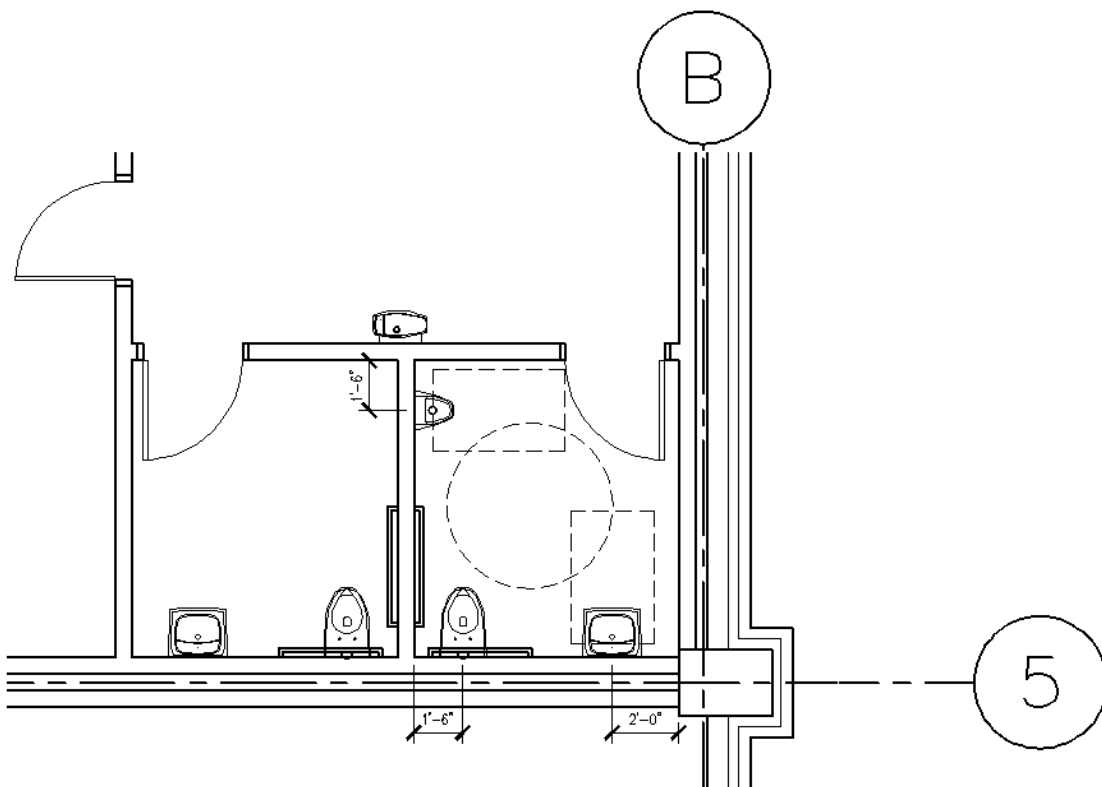

Figure 4-1.6 Place the fixtures shown (do not draw the dashed lines)
15. Add the plumbing fixtures as shown in Figure 4-1.6, plus:
The dashed lines shown in Figure 4-1.6 represent the clear floor space that must be considered when designing the layout of a toilet room. This tutorial will not get into the specifics related to the clear floor space at each fixture type; but, you may want to consider creating a special layer to place this information on so it can be turned off when not needed.